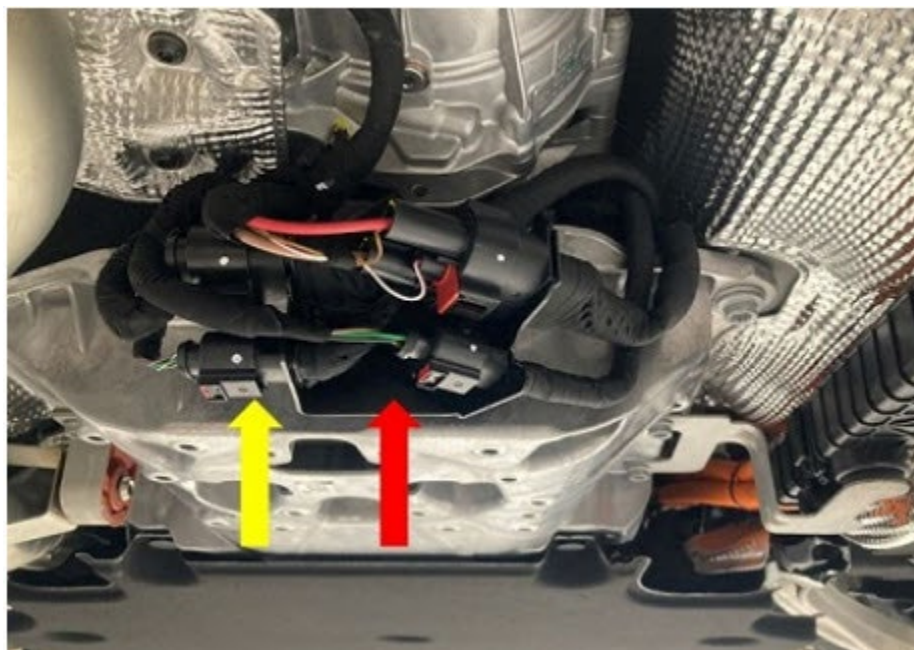

Figure 1. Connector locations.
1. Replace the connector housing bracket installed in the vehicle with the new bracket 8W0.971.502.AL (Figure 1 red arrow).
2. Replace the connector at the coupling point T6bm/T6bmx with 3B0.973.813 and 4H0.973.713.G (Figure 1 yellow arrow).